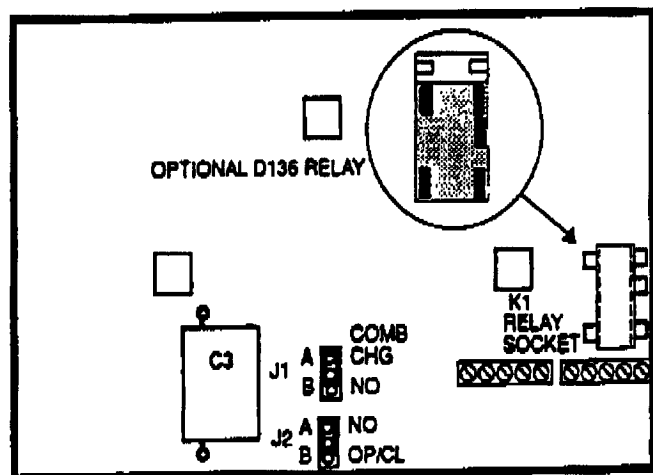

Figure 2: D268 Module
You need to install a jumper plug on J1 in the "A" (COMB CHG) position (see Figure 2) to enable the passcode change feature. To prevent further passcode changes, place the jumper plug in the "B" (NO) position.
2. Discharge the large capacitor (C3) indicated in Figure 2, by momentarily shorting its leads together with a jumper wire.
When using a D8112, supervised sub-control zone codes must be programmed with a 3 in the first digit position and a 2 in the second digit position. The 3 2 \_\_ code is a *Special Zone Code* used by the D8112 to identify a supervised sub-control zone. Install jumper plug J2 in the "B" OP/CL position on the D268 Module (see Figure 2) to enable opening and closing reports from the zone controlled by the D268.
An optional alarm device, such as a bell, can be installed to annunciate alarms associated with the D268/D269. Figure 4 shows the wiring of the optional device from the D268 Module to the panel. A Radionics model D136 Relay must be installed in the K1 socket of the D268 Module (see Figure 2) to operate this optional device. The socket is designed so the relay can be inserted in either the top or bottom positions. Insert the relay with the three legs facing away from C3. If a fault is detected on a D268 loop, the on board form C relay is activated. The relay is latched until you enter the passcode. See the appropriate *Operation and Installation Manual* for further details on the programming and operation of the Alarm Output.
The D268 Module contains two movable jumpers. The location of these jumpers is shown in Figure 2. Jumper J1 is used to enable and disable the passcode change function from a D269 Keypad. With the jumper plug installed in the "A" (COMB CHG) position, you can change the passcode. If the jumper plug is installed in the "B" (NO) position, you cannot change the passcode.